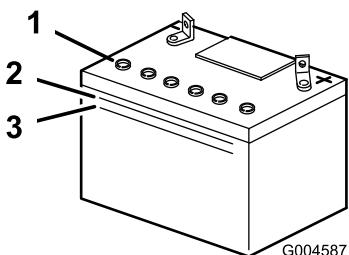

Figure 29
2. Look at the side of the battery. The electrolyte must be up to the upper line (Figure 29).
Note: Do not allow the electrolyte to fall below the lower line (Figure 29).
5. Wait 5 to 10 minutes after filling the battery cells. Add distilled water, if necessary, until the electrolyte level is up to the upper line (Figure 29) on the battery case.
3. Remove the vent caps from the battery (Figure 29).
4. Slowly pour distilled water into each battery cell until the electrolyte level is up to the upper line (Figure 29) on the battery case.